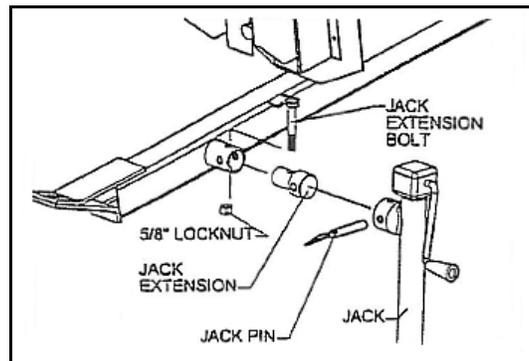

Figure 4
10. Install jack extension with jack extension bolt and 5/8" locknut provided as shown in Figure 4.